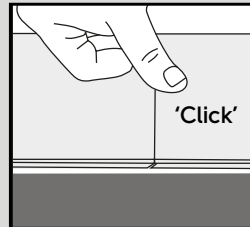
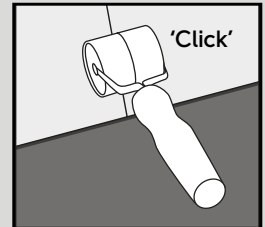

Fig. 5a
Fig. 5b
- Once the long side is aligned and tight, drop the short end into place by rubbing over the end joint with your thumb or a small roller until a 'click' is heard (Fig. 5a and Fig. 5b).